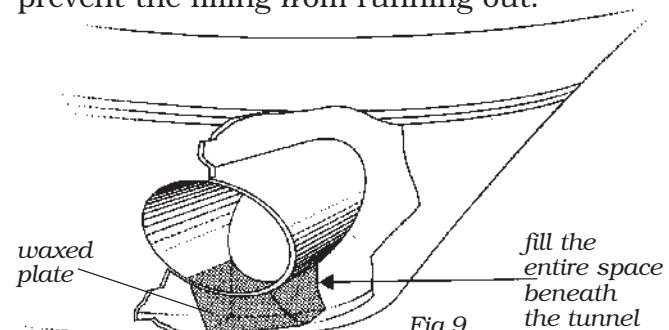

Fig.9
10. Should it be impossible to fit the tunnel with glass fibre all the way around, the entire space beneath the tunnel must be filled. See fig. 9. The filling must be uniform and might be made from talcum powder and polyester, or equivalent.
11. To prevent the filling from running aft, a waxed plate, made after the bilge and tunnel shapes, must be put in place whilst filling and curing. See fig. 9. Sometimes also the joint between hull and tunnel must be taped to prevent the filling from running out.